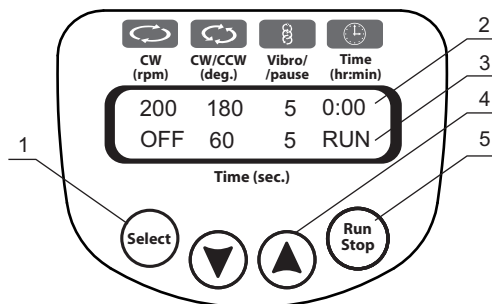

Fig. 3 Control panel
- 4.5. Press the **Run/Stop** key (fig.3/5) to start the program.
- 4.6. The stirrer motion will begin and the corresponding indication (RUN, fig.3/3 and the changing time values, fig.3/2) will be shown on the display.
- 4.7. If the operation time is not set and the **Time** indicator (fig.3/2) shows 0:00, pressing the **Run/Stop** key will start continuous operation of the unit until the **Run/Stop** key is pressed again.
- 4.8. If the operation time is set then the unit will stop after the set time interval elapses (flashing indication STOP (fig.3/3) will be shown on the display) and give a repetitive sound signal about the end of operation (press the **Run/Stop** key to stop the signal).
- 5.1. Press the **Select** key (Fig.3/1) to choose the parameter to change (each pressing of the **Select** key consecutively activates the parameters in the cycle; the active parameter is flashing).
Use the ▲ and ▼ keys (Fig.3/4) to set the necessary value. Pressing the key for more than 2 sec will increase the increment.
- 5.6. The overall timer (fig.3/2) is used to control the operation time. The timer can be set for the period from 1 min to 96 hours (timer increment is 1 min).